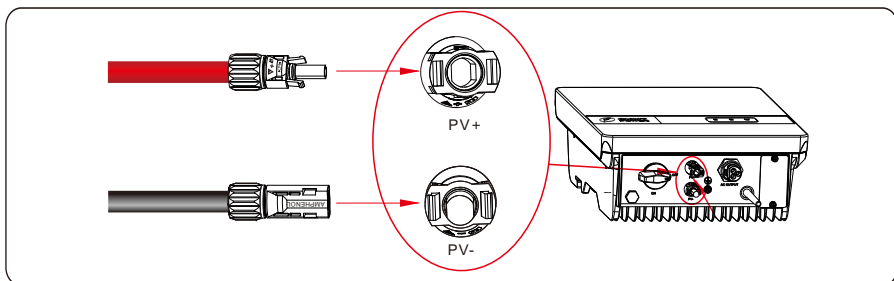

Figure 5.15 Connecting to the inverter
Step 6 Insert the positive and negative connectors into their corresponding terminals of the inverter until a "click" sound is heard, as shown in Figure 5.15.